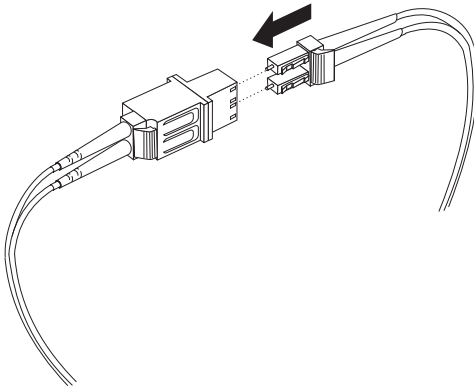

Figure 34. Connecting an LC-LC cable into the LC-SC cable adapter
4. Carefully insert the other end of the LC-LC cable into the LC connector end of the LC-SC cable adapter as shown in Figure 34. Push in the connector until it clicks into place.